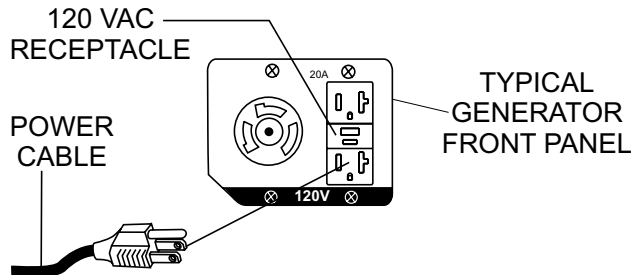

Figure 14. Connecting to Power Source
1. Connect the AC power cord to a 120 VAC external power source or to a 120 VAC receptacle on a generator (Figure 14).